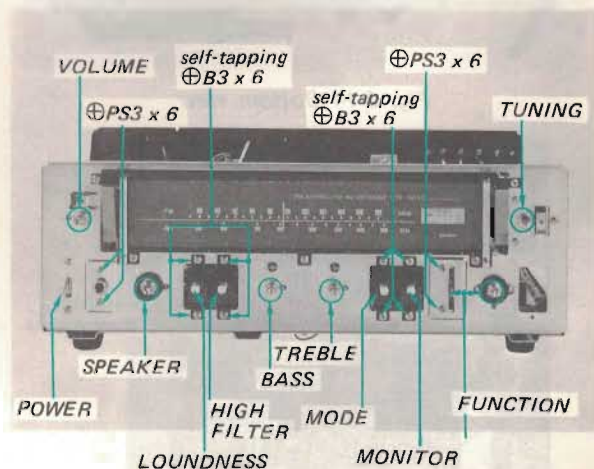

Fig. 2-13 Control and switch replacement
1. Remove the two screws securing the switch to the front subchassis as shown in Fig. 2-13.
2. Remove the hex nuts that secure the switches to the front-subchassis as shown in Fig. 2-13.